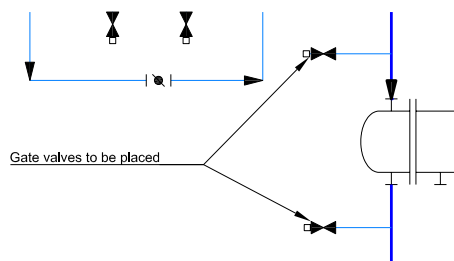

Figure 2-63 Locations of the gate valves
17. Similarly, place the gate valves at the locations shown in Figure 2-63.